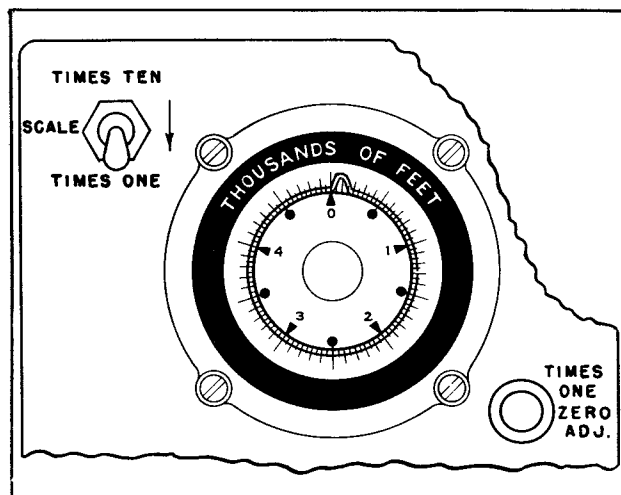

Figure 3-4. Times One Zero Adjustment
f. The circle should appear bright against a background free from faint green lines. If it does not, remove the indicator from Mounting FT-445-A, turn it upside down, and adjust the "BRIL." screwdriver adjustment on its bottom so that the circle and background brilliance is as desired. (See fig. 3-4.) Visor M-387 should be in place during this adjustment. Do not set the brilliance any higher than necessary for good readability, or the life of the cathode-ray tube fluorescent material will be shortened.